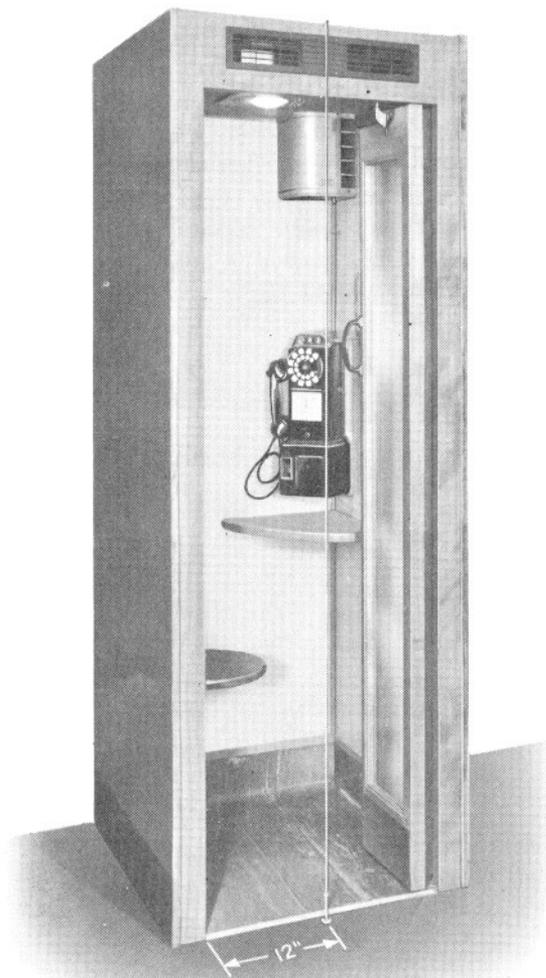

Fig. 2 — 11-type Booth with Plumb Line
1. Place a dime (or mark the size of a dime) as shown in Fig. 2.
2. Suspend a plumb line, as shown in Fig. 2, from a tack temporarily located in the center of the top edge of the booth so that it hangs about 1/2 inch from the floor.